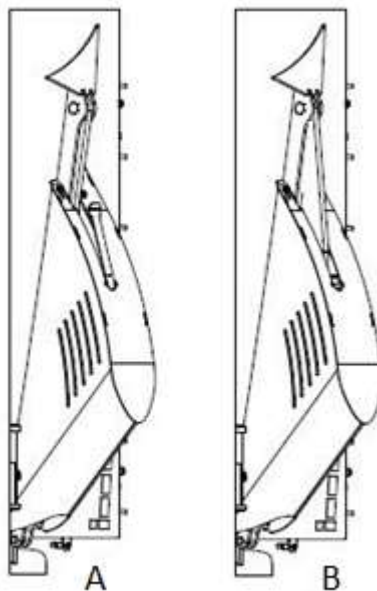
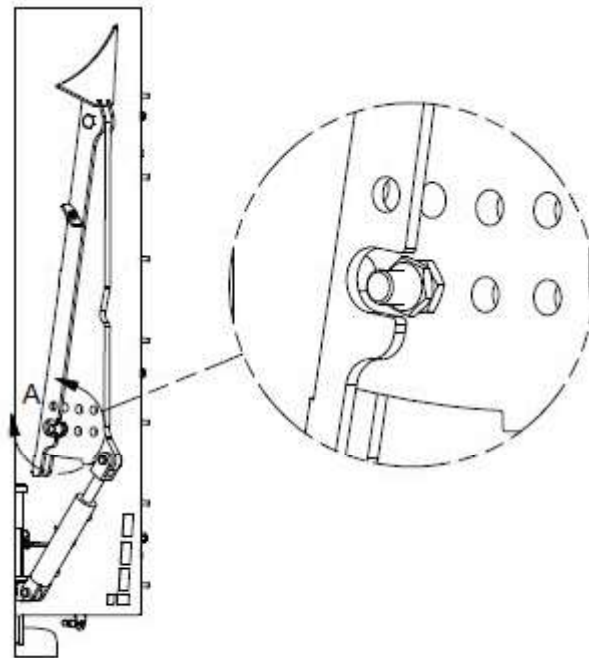

Figure 19 — Restrictor Blades In (A), Restrictor Blades Out (B)
Figure 20 — Hydraulic Cylinder Stroke Limiter for the Restrictor Blades
1. Using the hydraulic controls, move the restrictor blades all the way out of the mixing chamber (see Figure 19-B).
3. Remove the restrictor blade guards on each side of the machine by unscrewing the four (4) bolts on each guard.
4. Insert the stroke limiter bolt in the hole that corresponds to the desired position (see Figure 20).